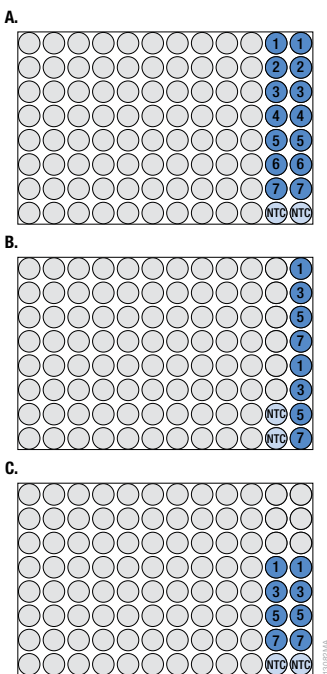

Figure 18. DNA standard curve and NTC placement on the qPCR amplification plate. Panel A.
The Number of Controls dropdown menu allows you to process 0–4 Controls. The no-template control (NTC) is not a Control; the NTC is handled as the final Standard of the selected standard curve. When one or more Controls are selected, you will be prompted to place the Control(s) on the worktable in 1.5 ml (or 2 ml) tube(s). The Controls are expected to be the same Sample Type (i.e., **Extracted DNA** or **Direct Amplification**) as the Unknowns and are processed with the selected Sample Volume and Sample Replicates. Reaction wells for the Controls are set up in the amplification plate(s) based on method options you select during method installation. The Control reactions can be placed in the amplification plate before the reactions for the Unknowns (i.e., starting at well A1), immediately after the reactions for the Unknowns or at four user-defined positions. When the Controls are placed at user-defined positions, the method is programmed to limit the number of replicate qPCR amplifications set up for all Unknowns and Controls to one. User-defined Control positions must not interfere with the placement of Standards in the qPCR amplification plate (see Section 8, Figure 18). When two amplification plates are generated, Controls are set up in both plates.
- Prior to assigning the positions to the Unknowns, the method assigns the appropriate wells for the user-selected Standard Curve (refer to See Section 8, Figure 18), the Controls when set to be placed before the Unknowns reactions (i.e., starting at well A1), and the Controls to be placed at user-defined positions.
When a seven-point DNA standard curve is selected, the Identity Automation™ qPCR setup method transfers all seven DNA standard dilutions and the NTC in duplicate to each amplification plate as shown in Figure 18, Panel A. When a four-point DNA standard curve is selected, the Identity Automation™ qPCR setup method transfers every other DNA standard dilution (i.e., dilutions 1, 3, 5 and 7 of the serial dilution series) and the NTC in duplicate to each amplification plate. The exact position of the DNA standard dilutions on the amplification plate depends on the number of replicate amplifications for each unknown sample that you selected (Figure 18, Panels B and C).